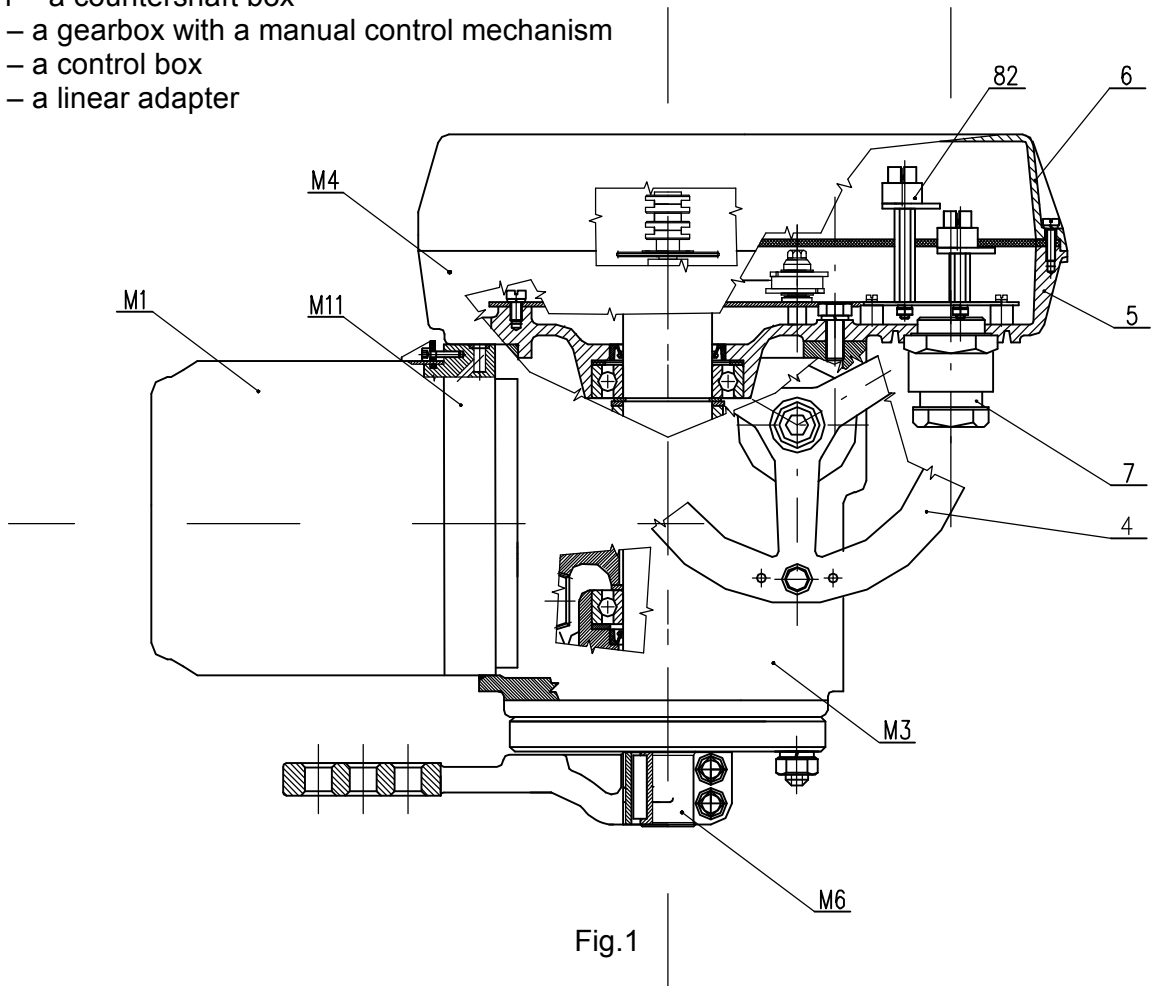

Fig.1
The actuators MP 52 200 (Fig. 1) consist of the following modules:
One-phase asynchronous electric motor (Fig. 1)
Electric connection can be made through the terminal board (82)(Fig.1) or through the connector.